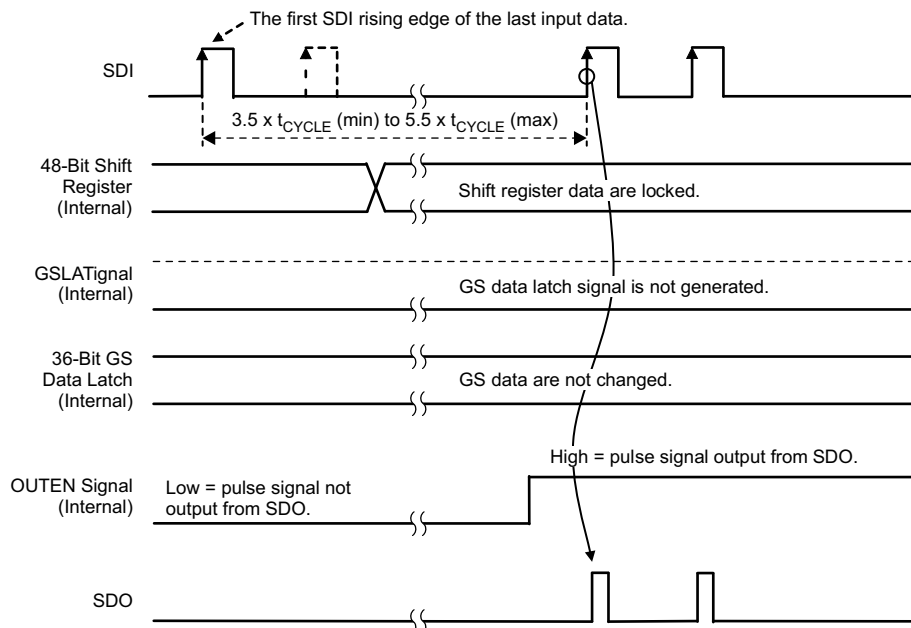

Figure 16. End of Sequence (EOS)
One communication cycle end of sequence (EOS) must be input after the 48-bit data are written because the TLC5973 does not count the number of input data. When SDI is held low for the EOS hold time (t_{H0}), the 48-bit shift register values are locked and a buffered SDI signal is output from SDO to transfer GS data to the next device. Figure 16 shows the EOS timing.
3. Execute one communication cycle EOS (refer to Figure 16) for the first device.